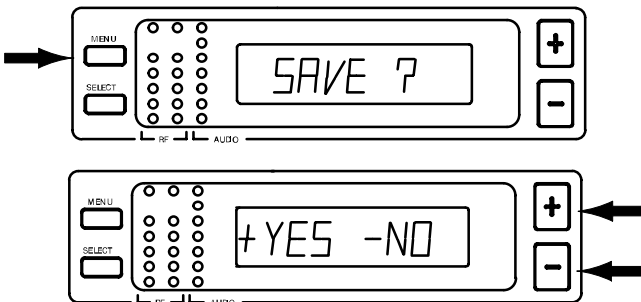
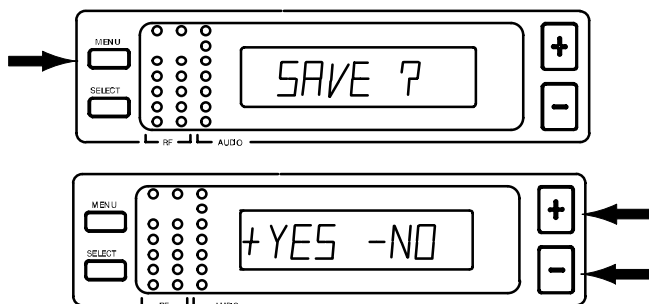

FIGURE 15
FIGURE 20
7. When the new Group/Channel has been completely entered, press the MENU button. “SAVE?” appears on the display, followed by “+ YES – NO”. Press the “+” button to save the new Group/Channel setting or press the “-” button to return to the original setting. See Figure 15.
- Press the MENU button to enter the desired frequency, as shown in Figure 15. SAVE? appears on the display, followed by "+ YES – NO". Press the "+" button to save the new frequency, or press the "-" button to return to the original setting. See Figure 20.